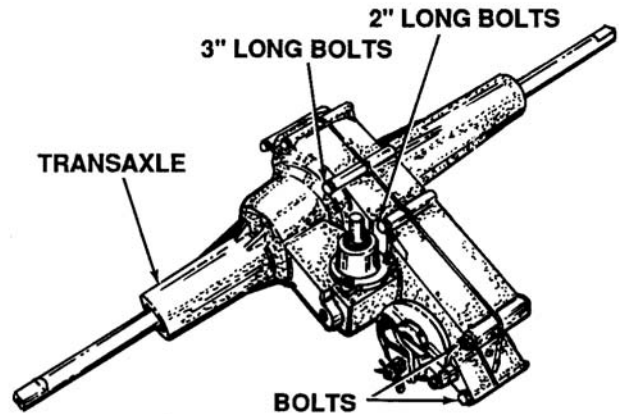

Figure 6-28. Pump Removal
- Remove pump from transaxle by removing two bolts and nuts from front of transaxle using a 1/2 inch wrench. See Figure 6-28.